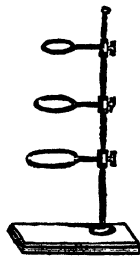

FIG. 8.
8. *Retort-stand*.—This is a most useful article. A good one will cost at least half a crown to buy it; but a serviceable one can be made very cheaply. Fix an iron rod, 15 in. high, into a flat piece of hard wood. Take two turns with some stout copper wire round the rod, allow 2 in. at right angles to the rod, and then round an object of the circumference of the desired ring take another turn, fastening off before removing the object. Any number of rings, and of any size, can be made in this way. To hold them at the required place on the rod, tie a piece of cord firmly round the rod just underneath them. (Fig. 8.)